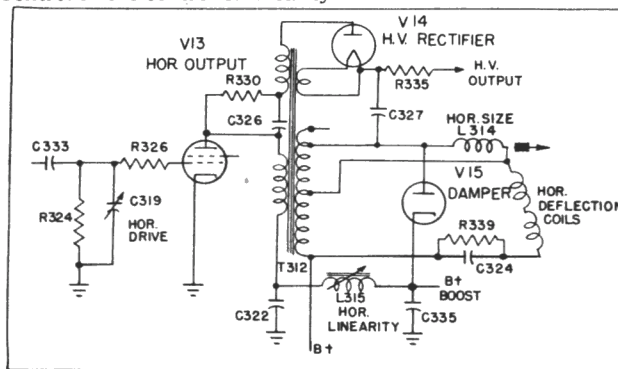

Fig. 11. Horizontal Sweep Output
7. HORIZONTAL SWEEP OUTPUT (SEE FIGURE 11).
8. HIGH VOLTAGE SUPPLY (SEE FIGURE 11).